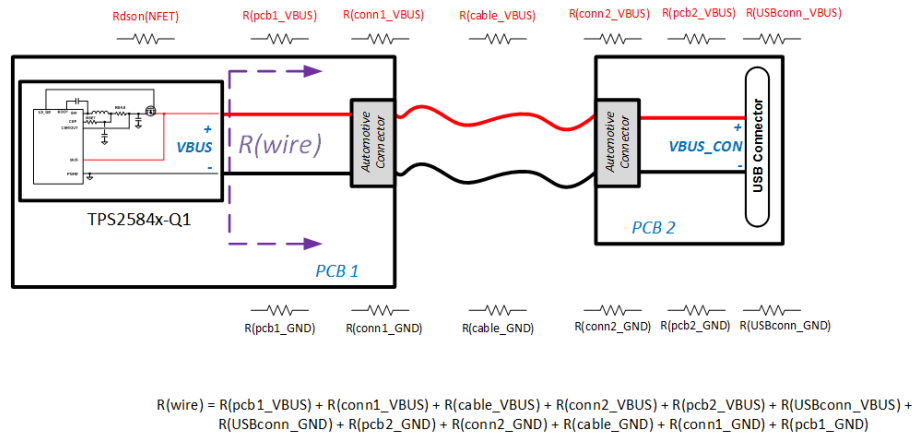

Figure 47. Automotive USB Resistances
When a load draws current through a long or thin wire, there is an IR drop that reduces the voltage delivered to the load. Cable droop compensation linearly increases the voltage at the CSN/OUT pin of TPS2584x-Q1 as load current increases with the objective of maintaining V_{BUS_CON} (the bus voltage at the USB connector) at 5 V, regardless of load conditions. Most portable devices charge at maximum current when 5 V is present at the USB connector. Figure 47 provides an example of resistor drops encountered when designing an automotive USB system with a remote USB connector location.
- Cable compensation: Total resistance including cable resistance, contact resistance of connectors, TPS2584x-Q1 current sense resistor and external NFET $r_{DS(on)}$ (if used). Refer to Figure 47 for examples of resistance in an automotive application.